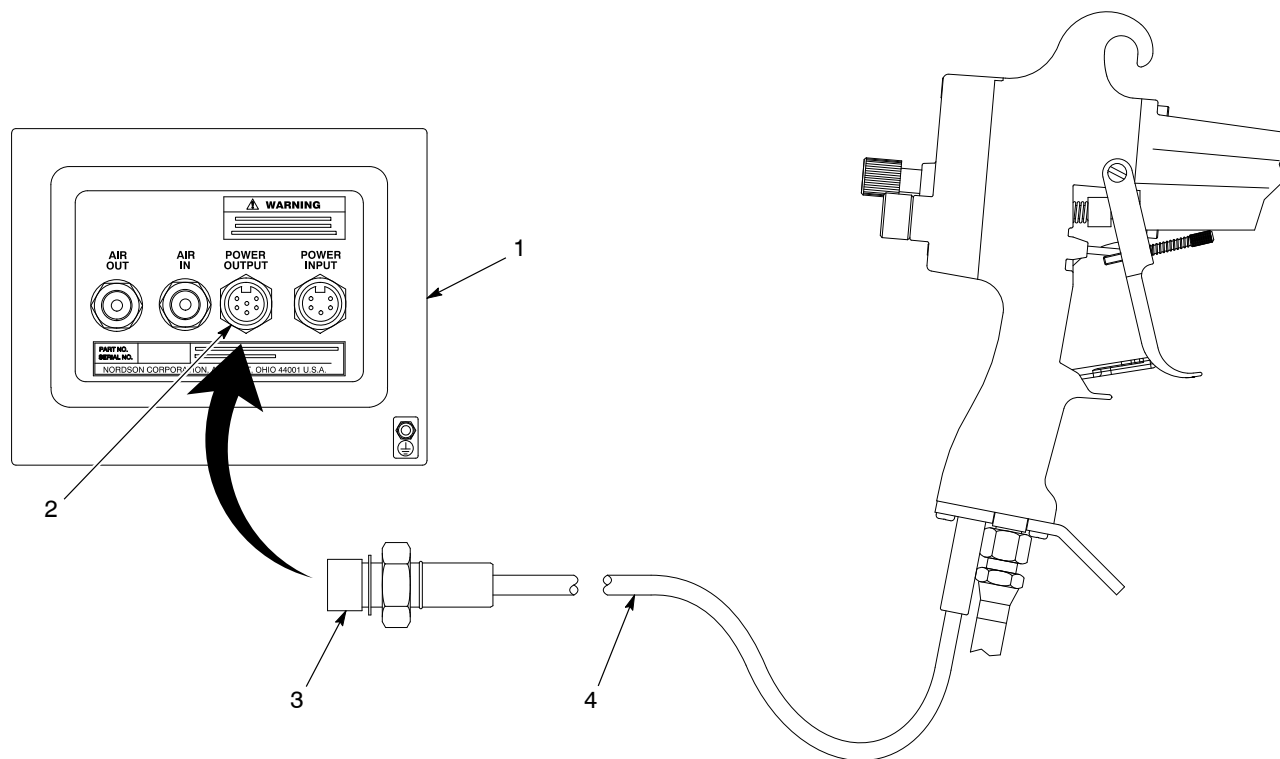

Figure 3-4 Gun Cable Installation
See Figure 3-4. Connect the gun cable (4) to the POWER OUTPUT or GUN OUTPUT receptacle (2) on the back of the gun control unit (1).